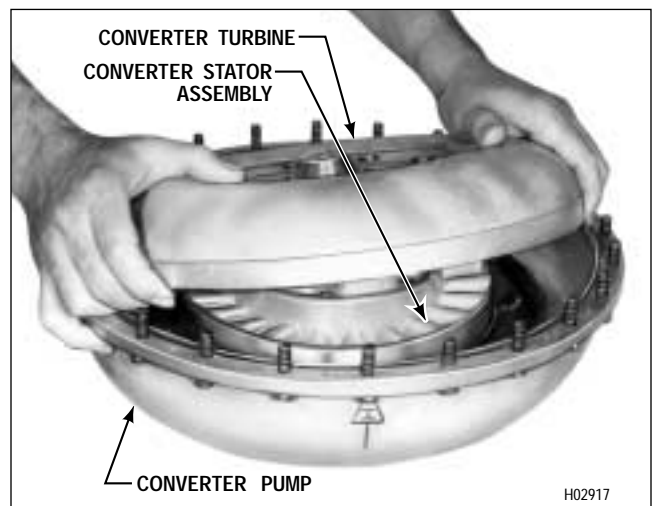

Figure 6-6. Removing (or Installing) Torque Converter Turbine (AT 543)
(5) Lift off the converter turbine (Figure 6-6).
(9) Install the converter turbine assembly (Figure 6-6).